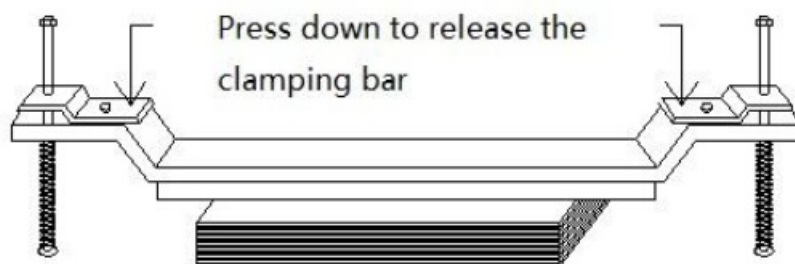

Fig 3
7. Take the drilled sheets away by releasing the clamping bar (shown in Fig 3).